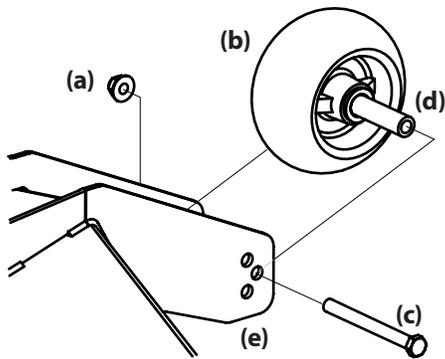

Figure 4-10
- Remove the lock nut (a) securing one of the front gauge wheel (b) hex screws (c) to the deck. Remove the front gauge wheel (b), hex screw (c) and spacer (d). See Figure 4-10.